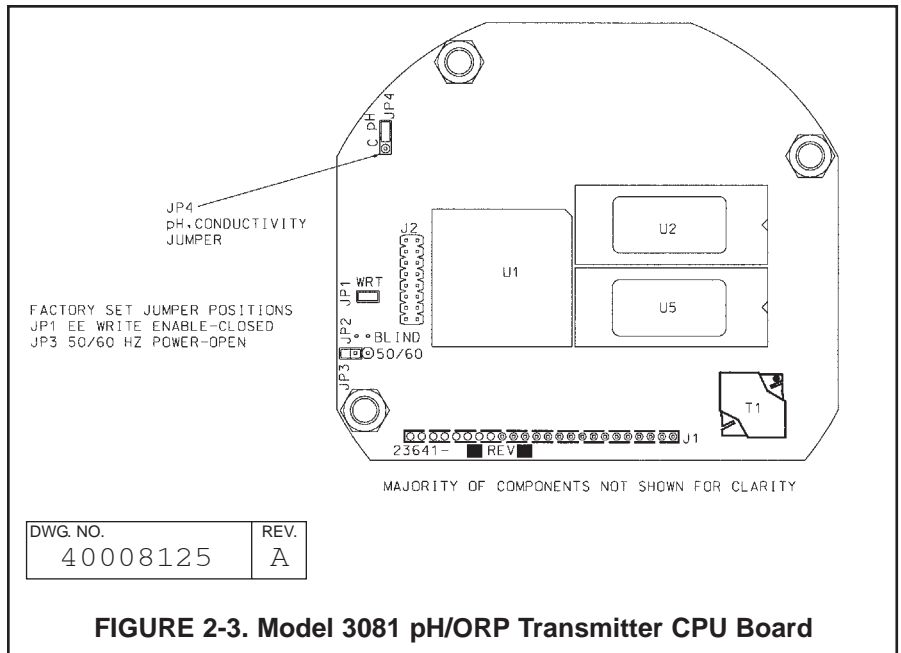

FIGURE 2-3. Model 3081 pH/ORP Transmitter CPU Board
- There are more jumpers on the CPU board. Refer to Figure 2-3. These jumpers are factory set and should NOT need to be moved. This step is for troubleshooting purposes only.
Verify that jumpers JP-1, JP-3, and JP-4 on the CPU board are in the positions shown in Figure 2-3. For installations where 50 Hz ac power is present, closing JP-3 may improve immunity of the transmitter to noise.